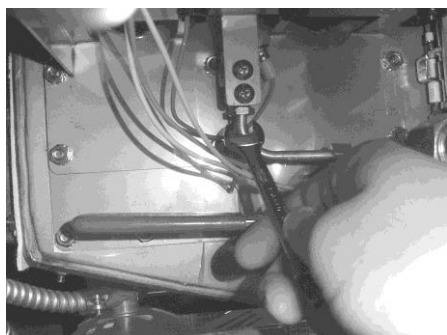

Figure 2-21
4. Using a 7/16" wrench, loosen the nut on the pilot tube and pull tube from assembly. Figure 2-21.